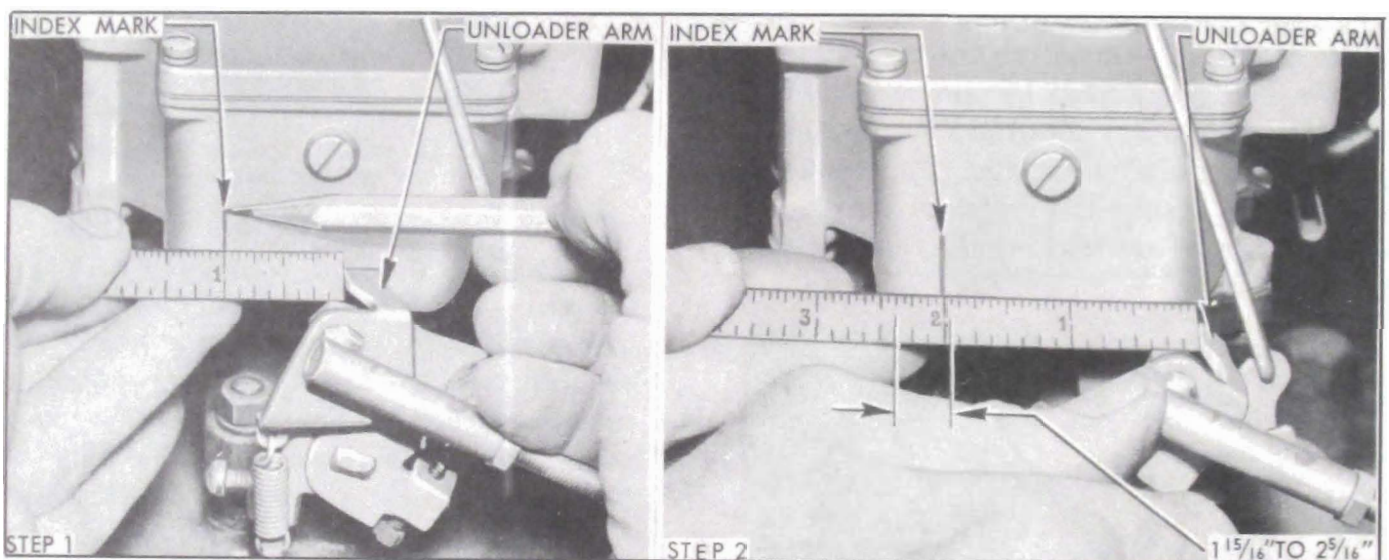

Figure 10-36—Checking Carter Accelerator Vacuum Switch Timing with Carburetor Installed
2. While holding throttle valve fully closed, place a scale against choke unloader arm of throttle lever and make an index mark on float bowl at the one inch division on scale. See figure 10-36, step 1.
4. If switch is correctly timed, the scale will then read between $1\frac{5}{16}$ " and $2\frac{5}{16}$ " at mark on fuel bowl ($1\frac{5}{16}$ " to $1\frac{5}{16}$ " travel). See figure 10-36, step 2.